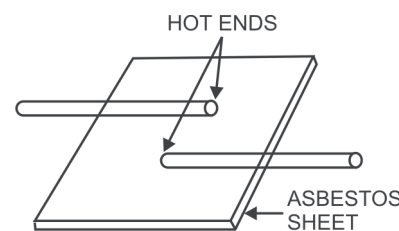

Fig. 2.5 COOLING THE ROUND EDGES
- (d) Place it on asbestos sheet for cooling as shown in Fig. 2.5.